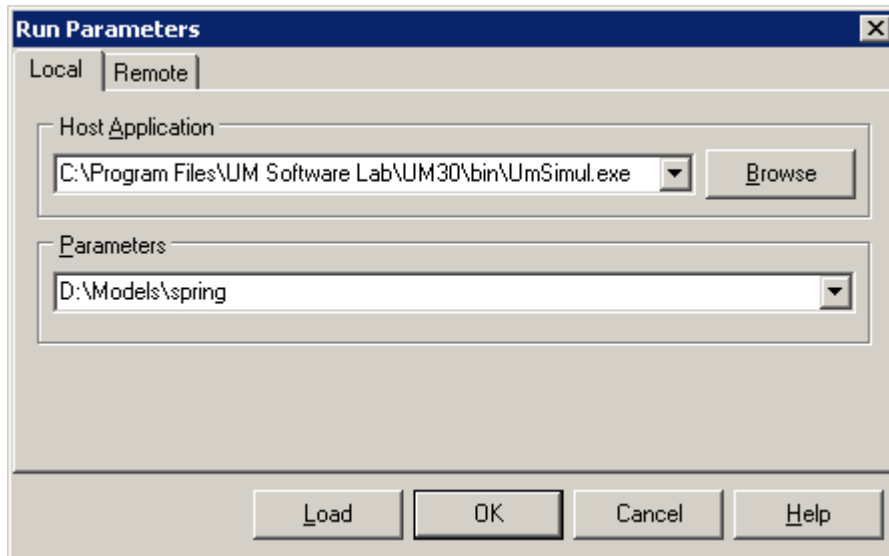

Figure 1.9.
- Input path to model directory ($..\ [ModelName]$) in the **Parameters** field. It leads that simulation module loads the model right after start (see Figure 1.9).